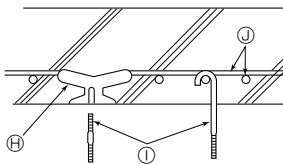

Fig. 2-5
- ② Ferro-concrete structures (Fig. 2-5)